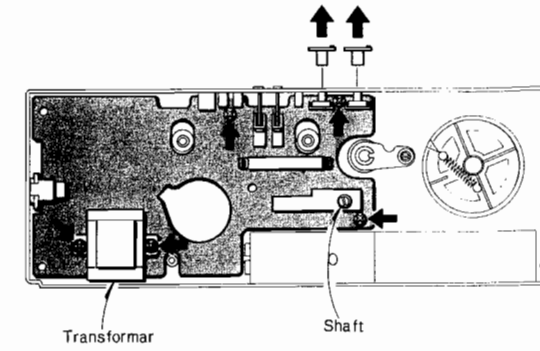

Fig. 7
- 2) Remove the 5 screws and 2 knobs to detach the main circuit board by holding the transformer and shaft of function switch. (See Figure 7)